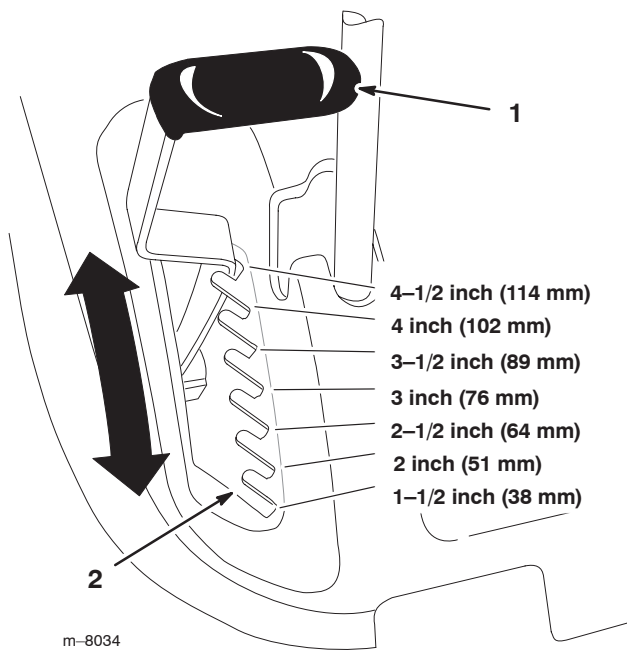

Figure 11
1. Raise the height-of-cut lever to the transport position (also the 4-1/2 inch (114 mm) cutting height position) (Fig. 11).
2. To adjust, pull up on the height-of-cut lever and move it to the desired position (Fig. 11).